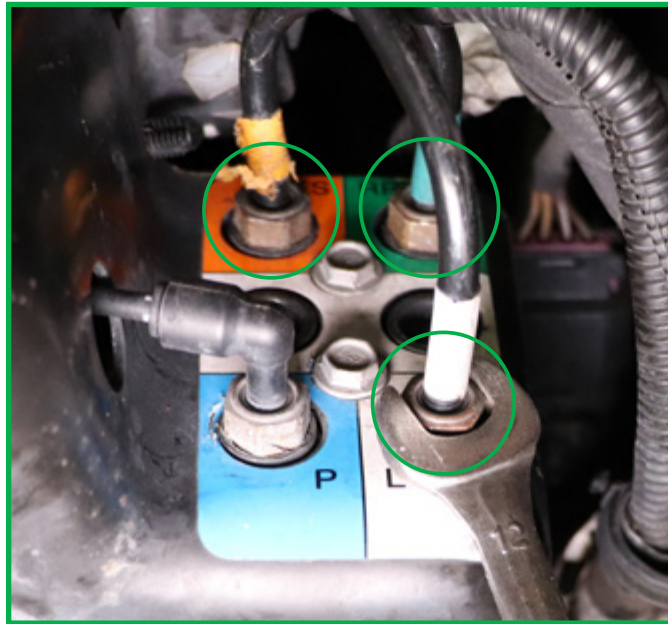

FIGURE 42
12. Reconnect the three (3) air lines to the valve block. (Figure 42)